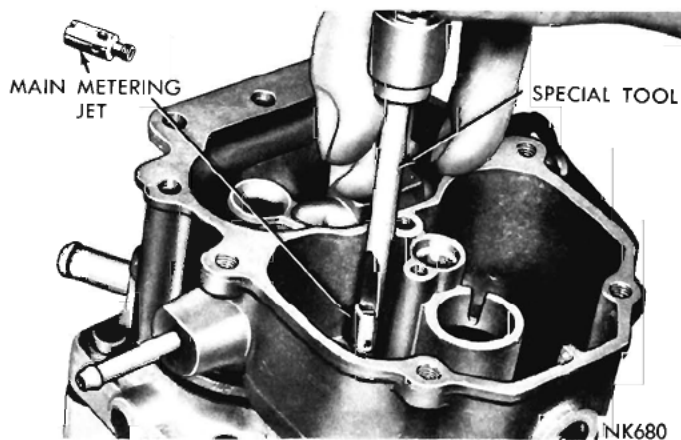

Fig. 4—Removing or Installing Main Metering Jets
(Fig. 4).
(6) Install the main metering jets and tighten securely. Refer to (Fig. 4).